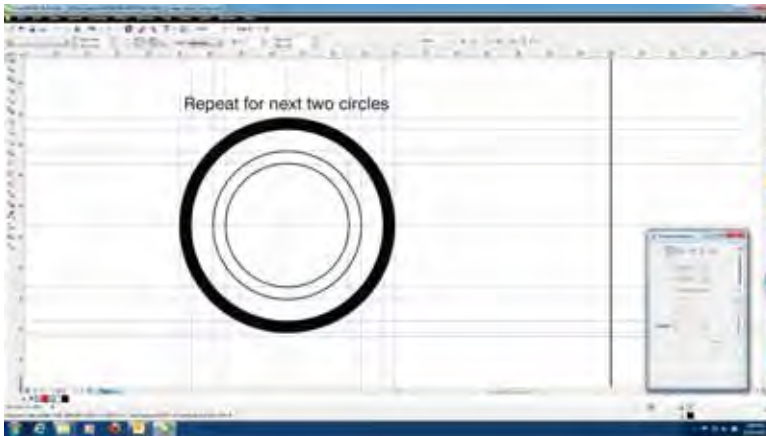

Fig.10
- 5. Repeat this for the next two circles as in Fig 10, 11 and 12.